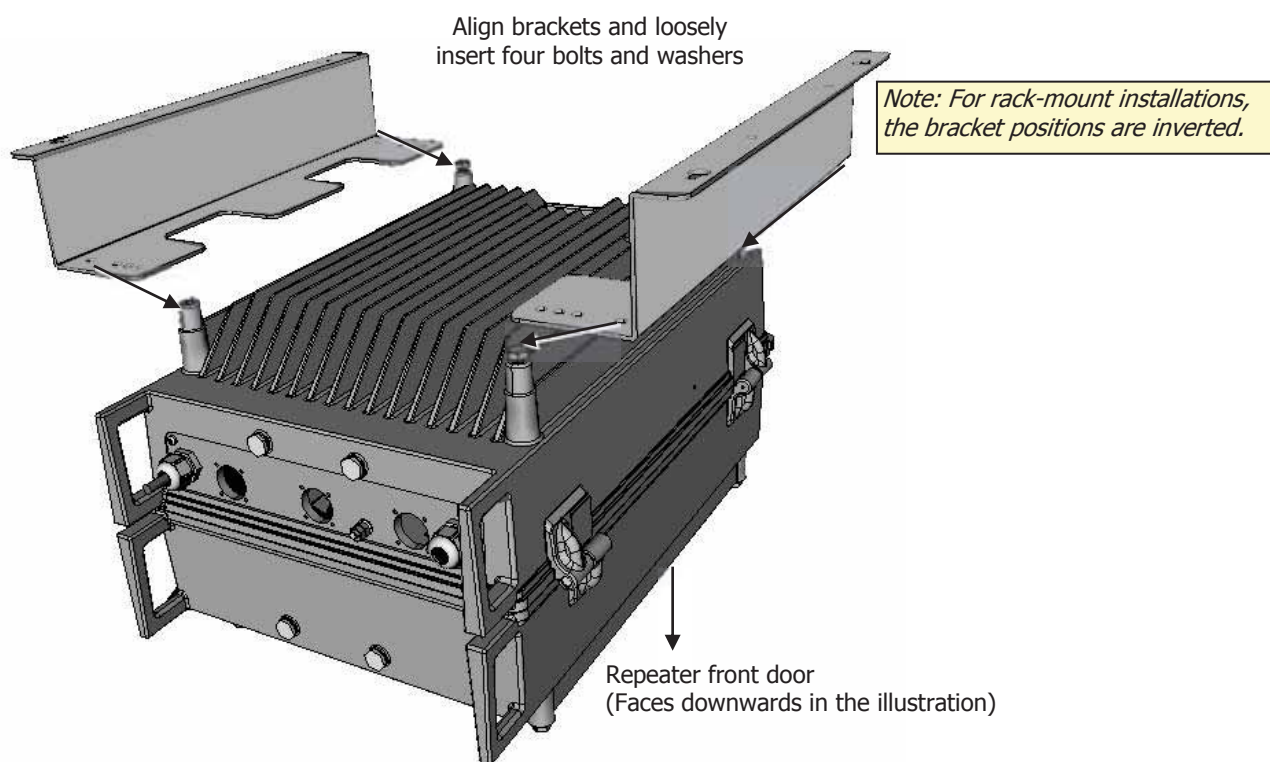

Figure 5-8. Positioning Brackets
2. Loosely assemble the mounting brackets — the position differs depending on whether this is a wall mount or a rackmount, where Figure 5-8 shows position for wallmount: